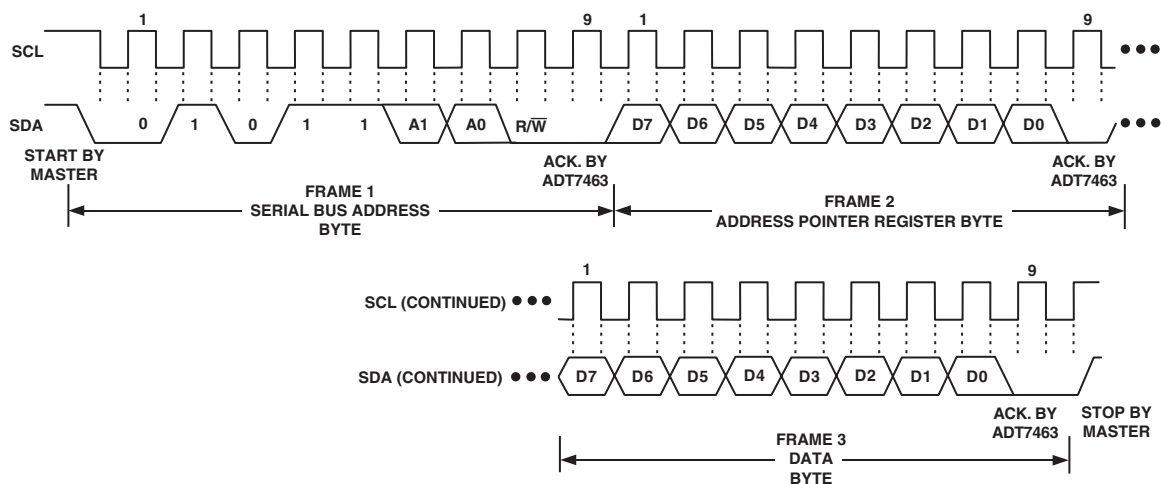

Figure 7. Writing a Register Address to the Address Pointer Register, Then Writing Data to the Selected Register
This is illustrated in Figure 7. The device address is sent over the bus followed by  $R/\overline{W}$  being set to 0. This is followed by two data bytes. The first data byte is the address of the internal data register to be written to, which is stored in the address pointer register. The second data byte is the data to be written to the internal data register.
2. In Figures 7 to 9, the serial bus address is shown as the default value 01011(A1)(A0), where A1 and A0 are set by the address select mode function previously defined.